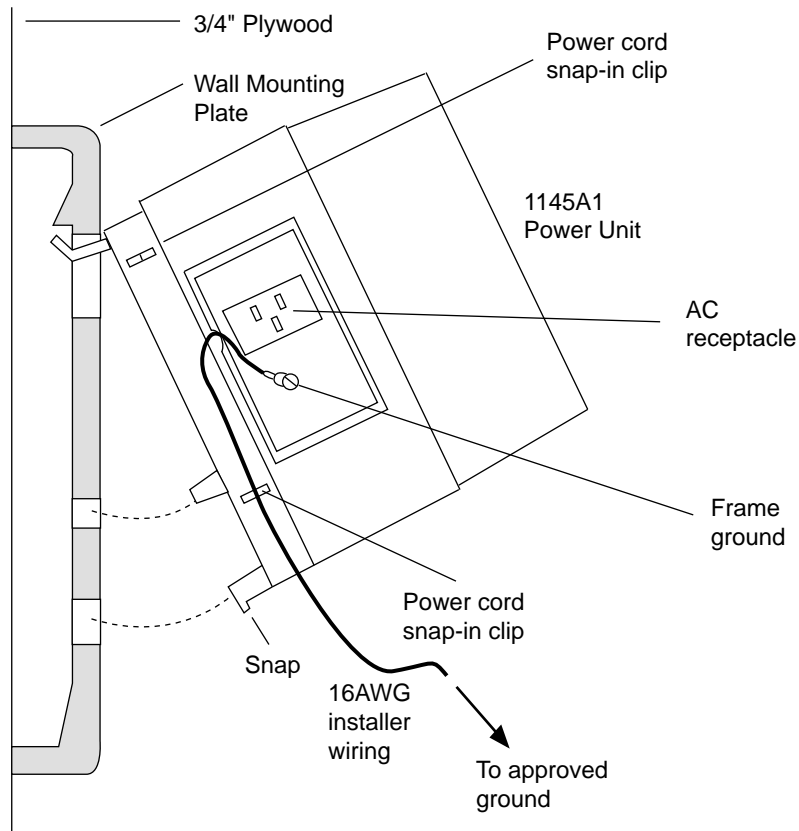

FIGURE 4-2. Side View of the 1145A1 Power Supply Being Mounted on the Wall-Mounting Plate
1. Mount the 1145A1 power supply on the wall-mounting plate by placing the hooks in the holes on the plate, carefully rotating the power supply downward, and then snapping the bottom feet on the power supply in the indicated holes on the plate. (This step requires a “place, rotate, then snap” motion.) Figure 4-2 shows a side view of the mounting arrangement.